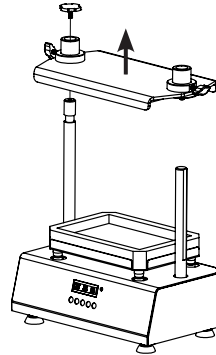

Fig. 21.2
- Pull up the cover plate as shown in fig. 21.2.